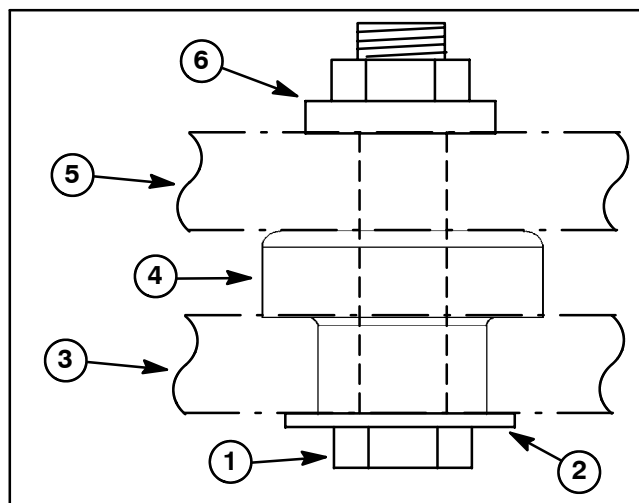

Figure 15
2. Make sure that isolation mounts are positioned in the swing arm so that the flange is positioned between the swing arm bracket and engine tray location (Fig. 15).